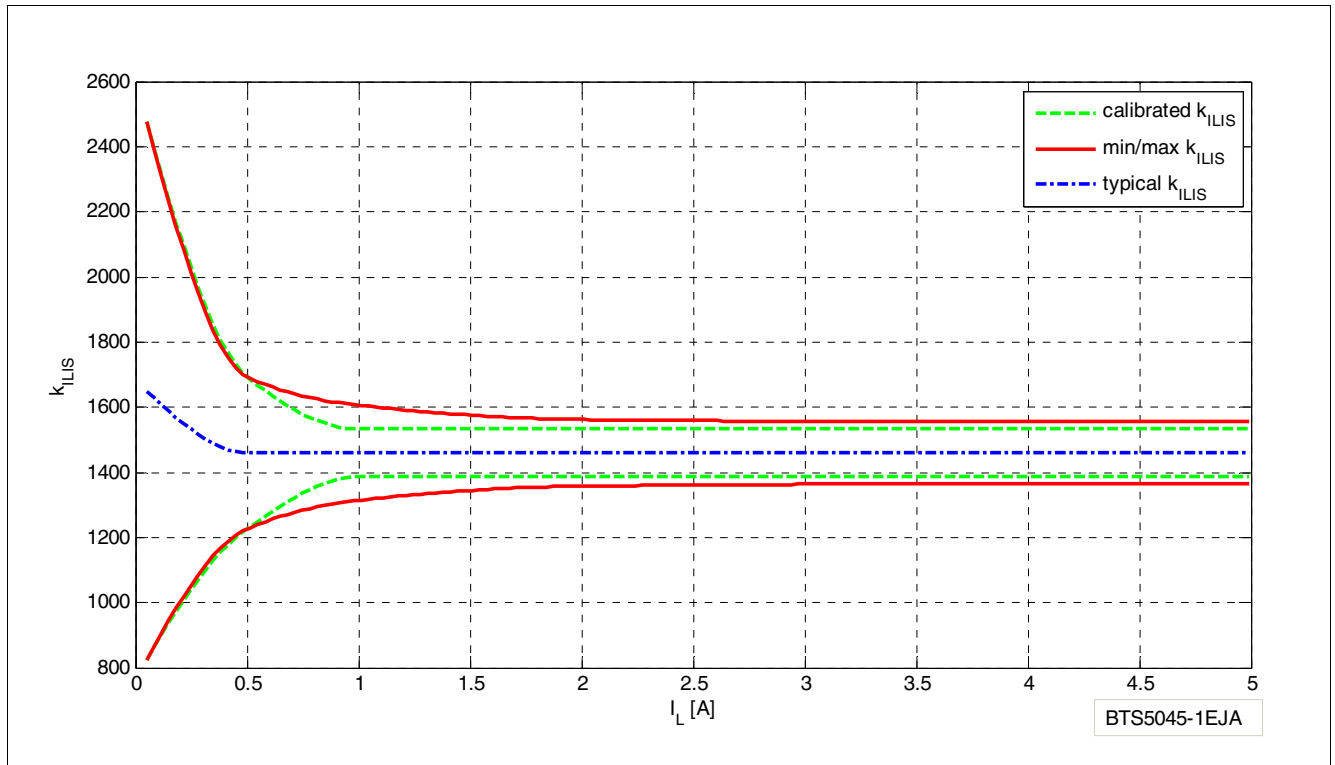

Figure 22 Improved Current SENSE Accuracy with One Calibration Point at 1A
**Figure 21** and **Figure 22** show the current sense as a function of the load current in the power DMOS. Usually, a pull-down resistor  $R_{IS}$  is connected to the IS pin. This resistor has to be higher than  $560\ \Omega$  to limit the power losses in the sense circuitry. A typical value is  $1.2\ \text{k}\Omega$ . The blue curve represents the ideal SENSE, assuming an ideal  $k_{ILIS}$  factor value. The red curves show the accuracy the device provides across full temperature range, at a defined current.
In some applications a better accuracy is required around half the nominal current  $I_{L(NOM)}$ . To achieve this accuracy requirement, a calibration on the application is possible. To avoid multiple calibration points at different load and temperature conditions, the BTS5045-1EJA allows limited derating of the  $k_{ILIS}$  value, at a given point ( $I_{L3}$ ;  $T_J = +25\ ^\circ\text{C}$ ). This derating is described by the parameter  $\Delta k_{ILIS}$ . **Figure 22** shows the behavior of the SENSE current, assuming one calibration point at nominal load at  $+25\ ^\circ\text{C}$ .